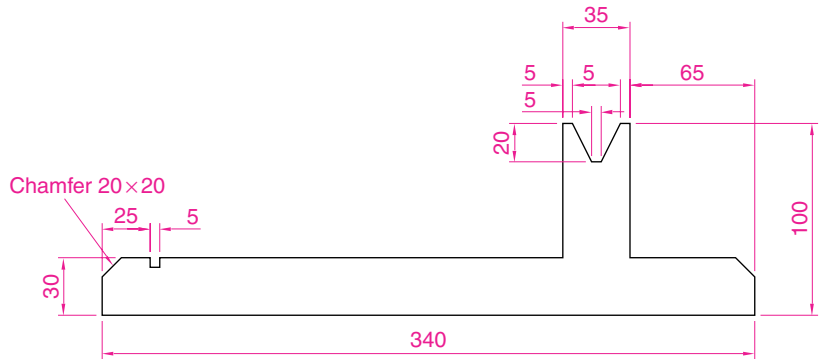

Fig. 14.10 Third example – outline for solid of revolution
3. In the **Front** viewport (top left-hand), construct a pline outline to the dimensions in Fig. 14.10.